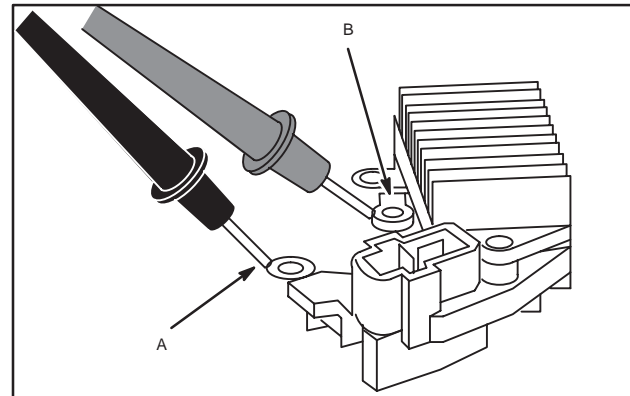

Fig. 33 – Check Regulator
1. Attach BLACK meter test lead to terminal "A" as shown, Fig. 33.
2. Contact terminal "B" with RED meter test lead, Fig. 33.